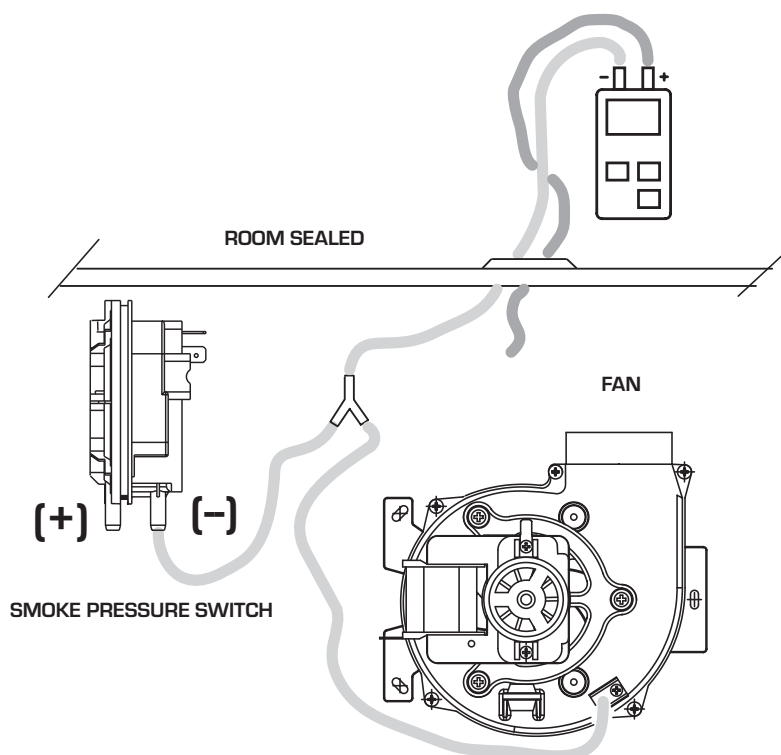

Fig. 16
3.5 "23 - 28 BF" SMOKE PRESSURE SWITCH (fig. 16)
is able to guarantee the boiler operation even with air intake and smoke outlet pipes at the maximum limit of the length allowed. The value of the signal to the pressure switch is measured by means of an instrument connected as shown in fig. 16.